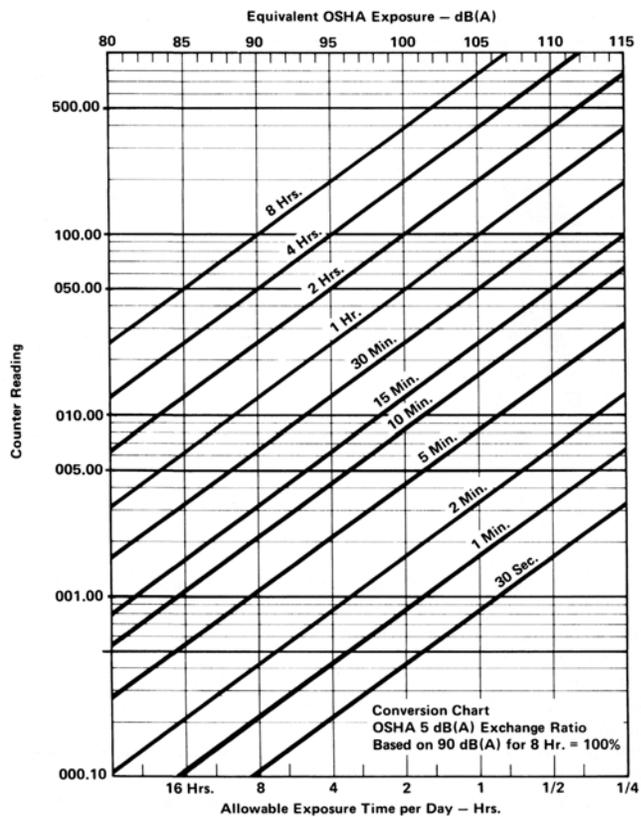

Figure 6.
After taking a measurement for some determined time period, the readout exposure can be converted to the equivalent dB(A) level for the entire time period, and can also be used to determine the allowable exposure time per day by using the Conversion Chart in Figure 6. This chart is also provided as a handy separate slide rule "Noise Exposure Calculator" with each M-7B.
The Chart in Figure 6 is used to convert the dosimeter reading to both Equivalent OSHA Exposure in dB(A) and to the Allowable Exposure Time per Day in Hours. The chart is based on an allowable exposure of 90 dB(A) for 8 hours — which is indicated by a dosimeter reading of 100.00. In the example above the dosimeter reading of 200.00 is converted by referring to the diagonal line representing a measurement period of 8 hours. Find the intersection of this line with the line representing a counter reading of 200.00. The vertical line through this intersection indicates that the equivalent OSHA exposure, shown at the top of the Chart, is 95 dB(A) and that the allowable exposure time per day, shown at the bottom of the chart, is 4 hours.